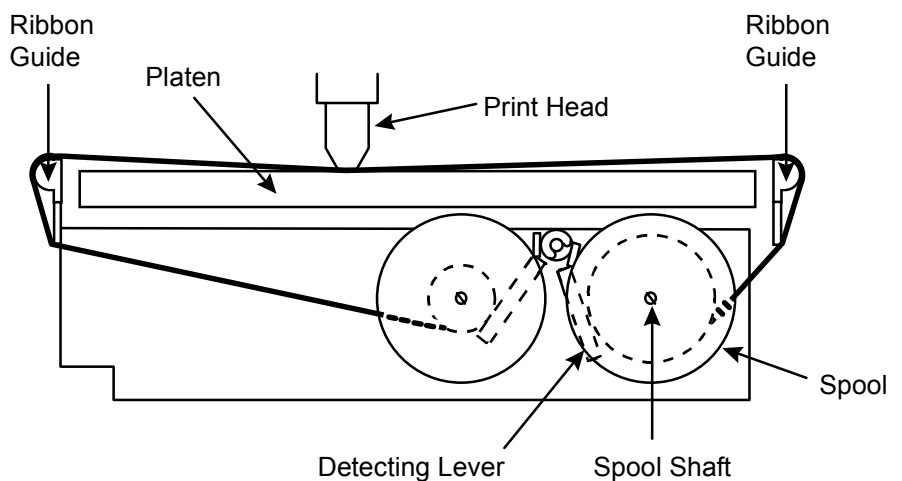

Figure 5-5: Correctly Installed Ribbon
4. Install a new ribbon as shown in Figure 5-5. The full ribbon spool should be on the right-hand side. Loop the ribbon around the ribbon guides and slide it between the print head and platen.